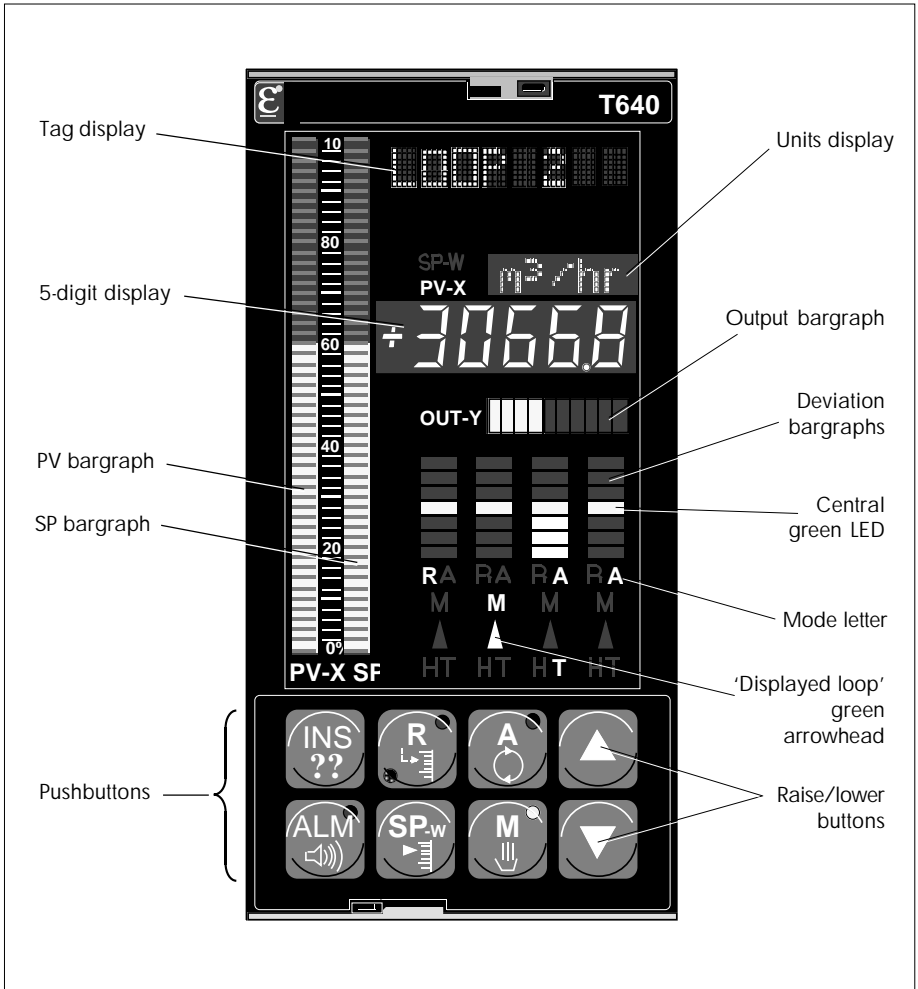

Figure 4-1 T640 front panel — the operator interface
Figure 4-1 shows the front panel, with a typical display.
Figure 4-1 shows the front panel. Four summary displays show red deviation bargraphs of T640's four loops — Loops 1 to 4 from left to right. *DevnBar*, in the SETPOINT block, specifies the bargraph span as ± 3 , ± 10 (default), or $\pm 30\%$ deviation. PV can be displayed instead, to 100% of range, if *DevnBar* = *Abs_PV*. The central green LED glows if the bargraph is showing deviation; the bottom red LED glows if PV is being displayed. A flashing bargraph means the loop is in absolute or deviation alarm.
Red display normally showing the PV value of the SETPOINT (or PID) block in engineering units. The **PV-X** legend (see Figure 4-1) glows red only when PV is being displayed.
- 2 Hold the key about 15cm from T640's front-panel, aiming the infrared LED at the **OUT-Y** legend to the left of the output bargraph (see Figure 4-1). The IR sensor is here behind the fascia. Press **INS**, then squeeze the key briefly to click the internal switch. If the security key is valid the tag display replies with **LOOP**, and loop access mode is entered. Invalid keys display **Bad Key**.